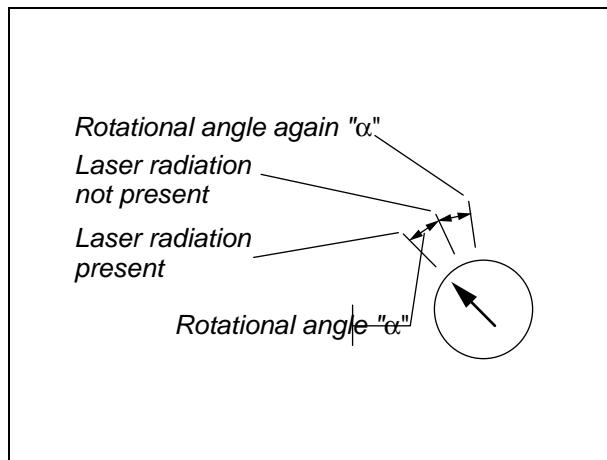

Figure 6.64 HF power setting HG 29-40
- c) Turn the potentiometer to the right (clockwise) until the laser radiation disappears. The two positions of the potentiometer (laser radiation present/not present) describe the " α " angle of rotation (Figure 6.64).